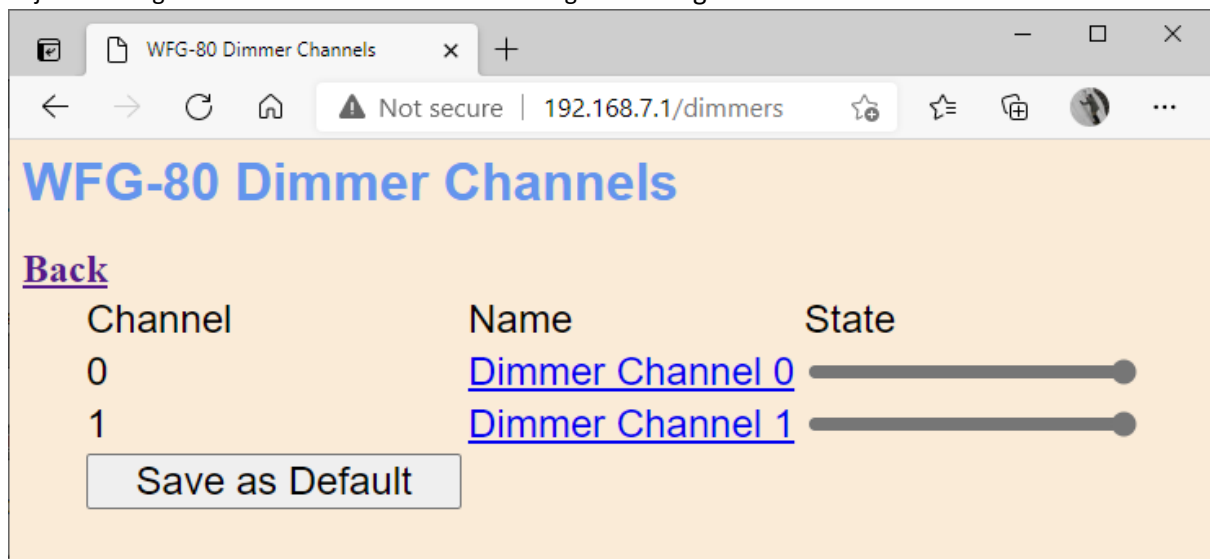

Figure 9 The Dimmer Channels List
- (4) Assuming your lights are connected properly, tapping the button in the State column will toggle the light on and off.
- (5) Use the Back hyperlink to return to the Main Menu page, then select Dimmer Channels. Here you can adjust the brightness of each of two banks of four lights as in Figure 9.